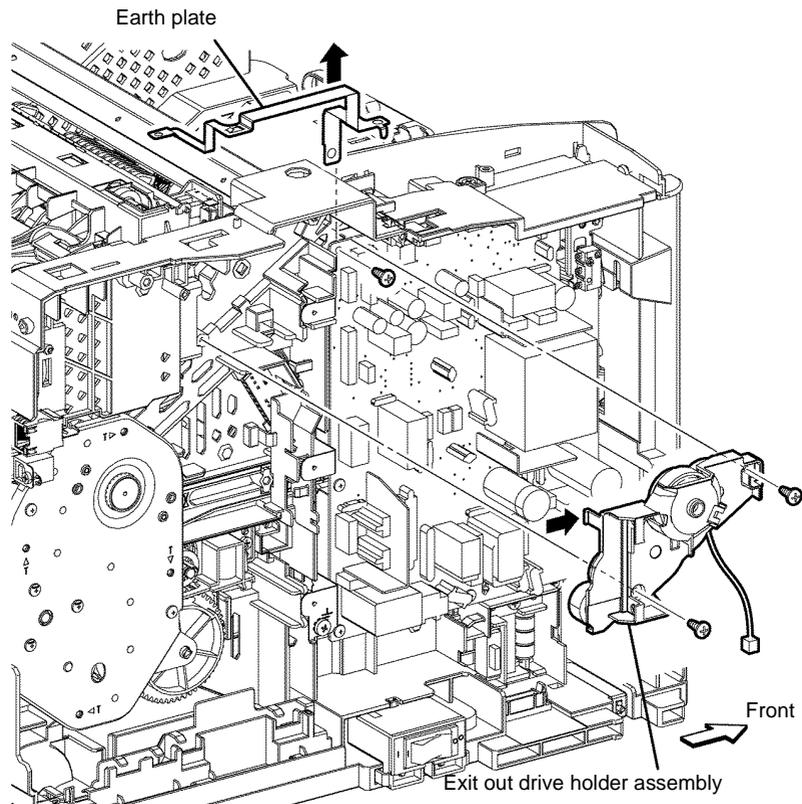

Figure 4 Exit out drive holder assembly removal
19. Remove one screw (silver, M3, 6mm) that fixes the left upper corner of the LVPS PWB, then lift the earth plate **Figure 4**.
20. Remove two screws (silver, tapping, 6mm) that fix the exit out drive holder assembly to the printer. Release one hook, then release the harness of the T21 exit clutch assembly. Remove the exit out drive holder assembly, **Figure 4**.